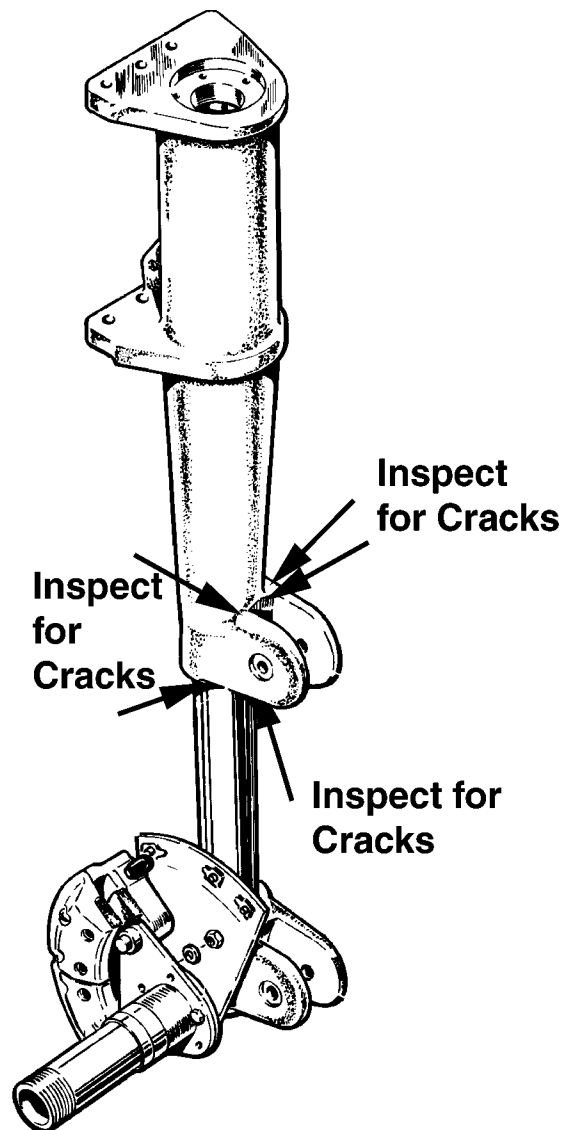

Figure 1
1. Thoroughly clean the area to be inspected as indicated in Figure 1 using a suitable cleaner.
2. Using a 10X power magnifying glass, visually inspect the gear cylinder top and bottom radii at the torque link attach lugs for cracks (Ref Figure 1). If no cracks are found by visual inspection, proceed to Liquid Penetrant Inspection per AC43.13-1B Chapter 5, Section 5 to check for cracks. Strip the paint and primer from the area to be inspected using a commercially available chemical paint stripper taking care only to remove paint and primer from the inspection area.